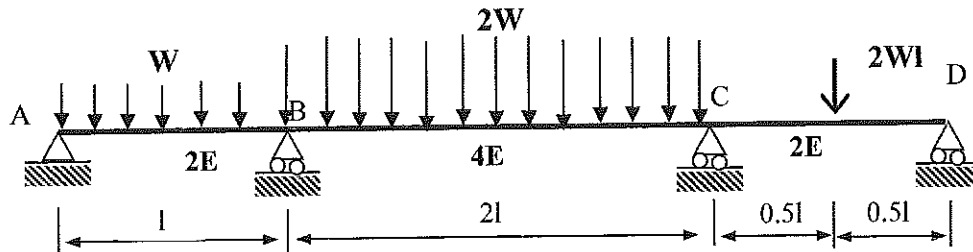

Figure Q3
- (ii) A continuous beam (ABCD) is shown in Figure Q3. Flexural rigidities of members AB and CD are equal to  $2EI$  and member BC is  $4EI$ . Uniformly distributed loads ( $W$ ), ( $2W$ ) are acting on members, AB and BC, respectively. There is a concentrated load ( $2Wl$ ) in member CD.